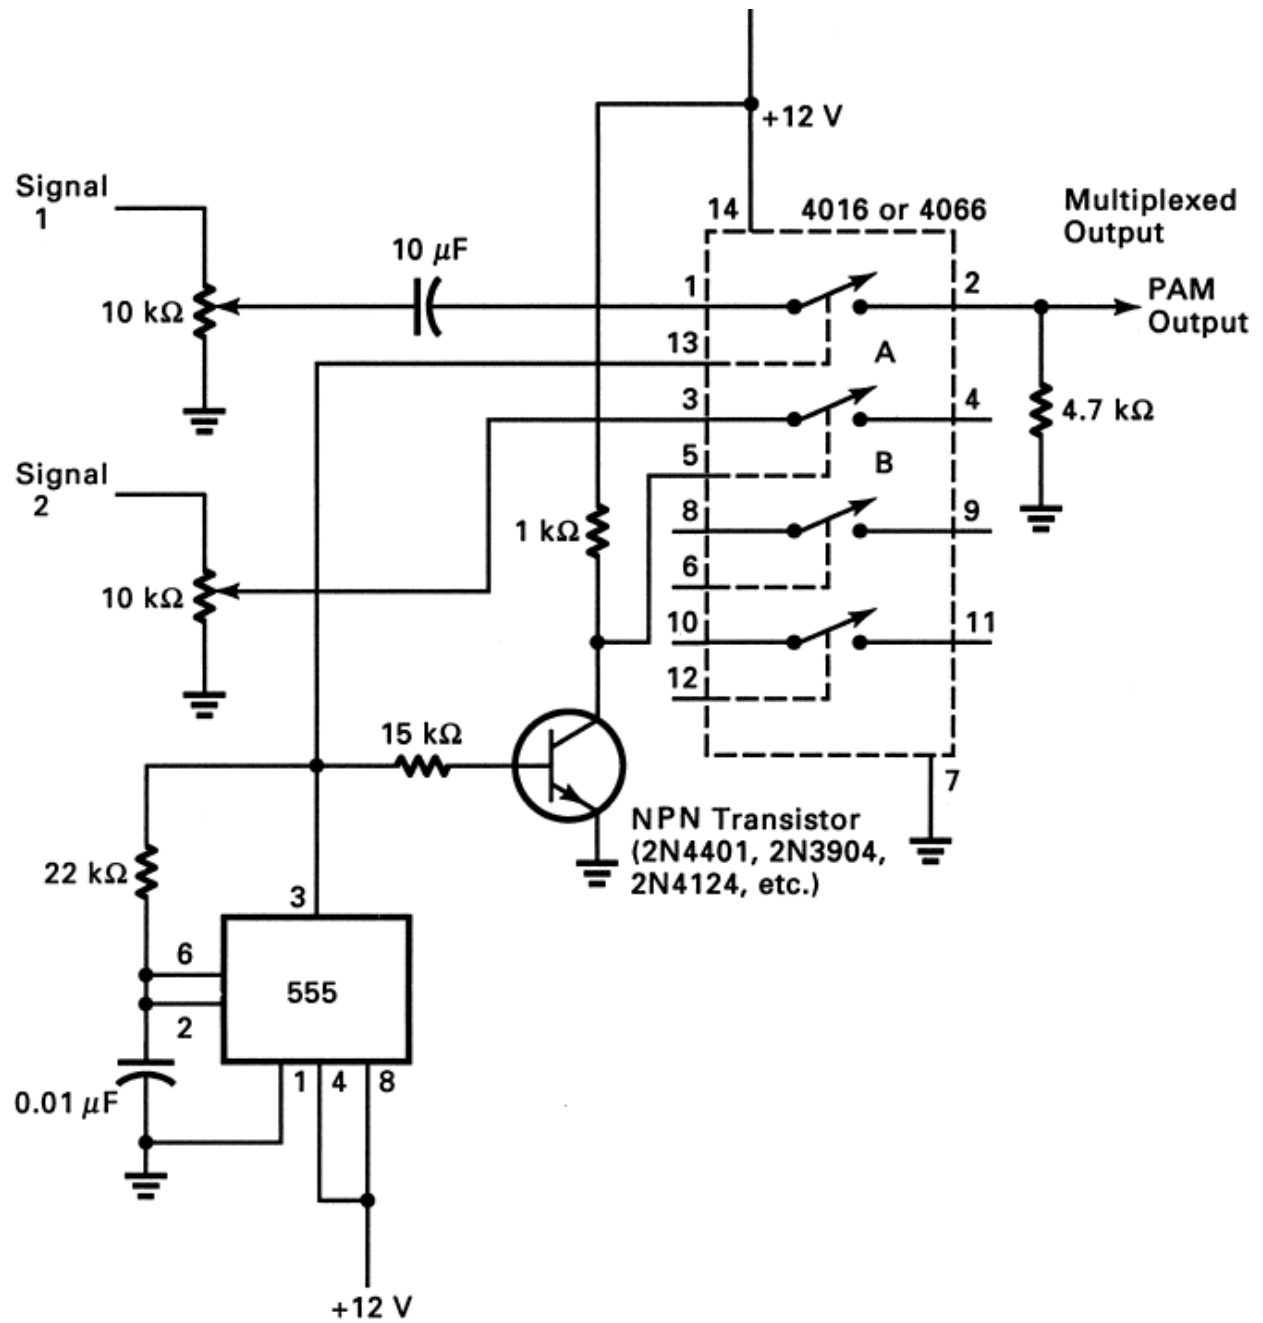

Fig. 11-3 Two-channel time division multiplexer.
7. Turn off the power and modify the circuit so that it appears as shown in Fig. 11-3. Remove the two 15-k Ω voltage divider resistors, and then connect the second 10-k Ω pot to another of the solid-state switches in the 4016 or 4066 IC. Connect the switch output to the 4.7-k Ω resistor output as shown. Next, wire the transistor inverter circuit. This switching inverter provides a complement signal to the second gate switch. When the upper switch is on, the lower switch will be off, and vice versa. That means the two input channels will be alternately sampled depending on which switch the binary 1 signal is applied to.